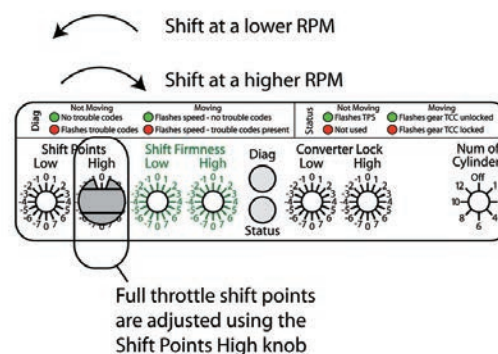

Figure 14 - Full throttle shift points
3. **Verify Throttle** - Refer to Figure 14 for the location of the Diagnostic (Diag) light and the Status light. To verify the throttle is calibrated watch the Status light (bottom light). The light should be very dim or off while the pedal is released. The light should flash faster with increasing throttle. The light should be solid green when the pedal is fully depressed. The Status light will be solid red while the vehicle is not moving if there is a TPS trouble code set.